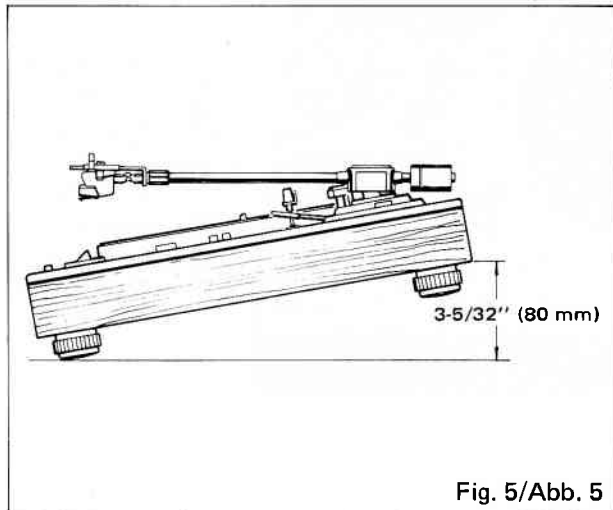

Fig. 5/Abb. 5
3. Lift up the rear side of the unit about 3-5/32" (80 mm) (Fig. 5).